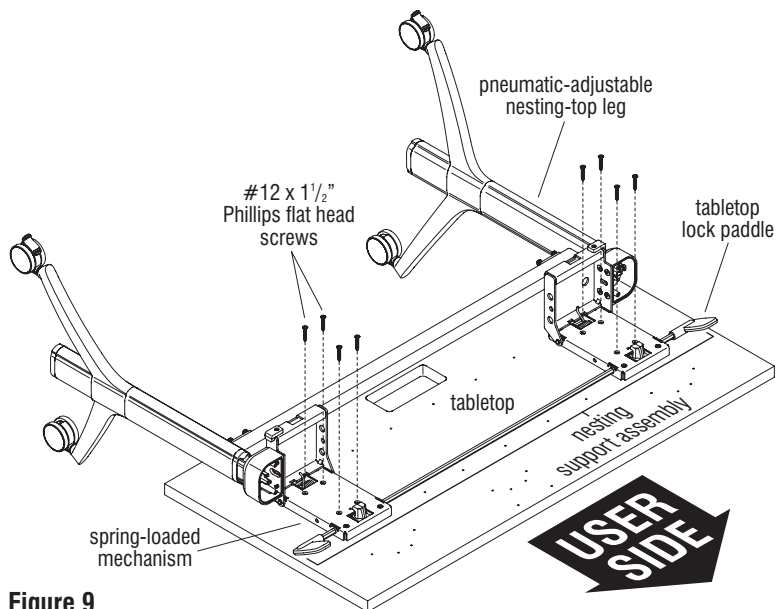

Figure 9
20. Press the tabletop lock paddles down and gently lower the pneumatic-adjustable legs down to gain access to the center group of spring-loaded mechanism mounting holes (Figure 9).
21. With the four center mounting holes on each spring-loaded mechanism of the nesting support assembly aligned with the mounting holes on the tabletop underside, secure the mechanism to the tabletop using four #12 x 1½" Phillips flat head screws per mechanism. Do not over-tighten (Figure 9 & Detail N).